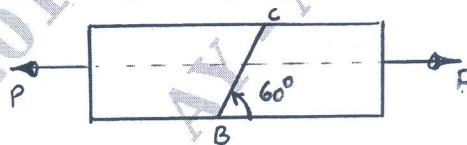

Fig.Q3(b)
- A rectangular bar of cross section area of 11,000 mm² is subjected to a tensile load 'P' as shown in Fig.Q3(b). The permissible normal and shear stresses on the oblique plane BC are given as 7 N/mm² and 3.5 N/mm² respectively. Determine the safe value of 'P'. (06 Marks)